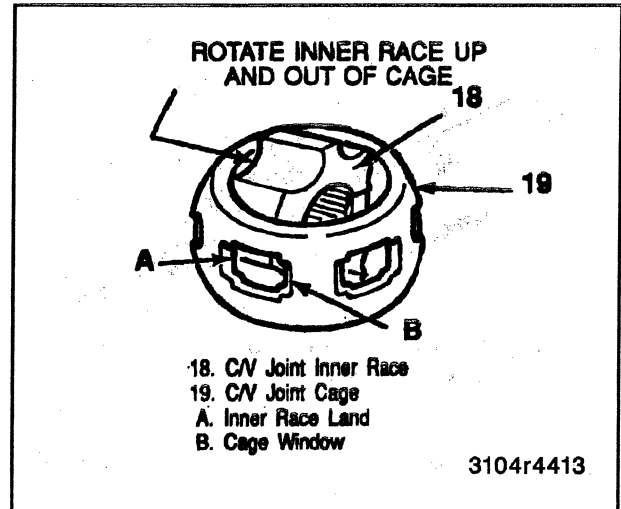

Figure 18—Separating Inner Race and Cage
5. Rotate the inner race (16) 90 degrees to the center line of the cage (17) with the lands of the inner race aligned with the windows of the cage (figure 18).
6. Pivot the inner race (16) into the cage (17) window and remove the inner race.
- Put a light coat of recommended grease on the ball grooves of the inner race (16) and the outer race (18). Refer to SECTION 0B for specified grease.
1. Inner race (16) into the cage (17) (figure 18).
- A. Rotate into place. Cage with inner race to the outer race (figure 18).